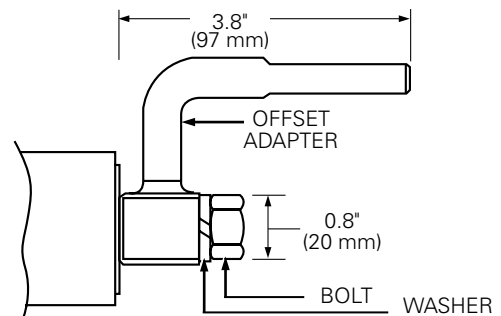

Figure 12. Offset adapter terminal.
2. Place the washer onto the bolt and insert the bolt through the hole of the offset adapter into the tapped center hole of the fuse and torque the bolt to 10-15 ft-lbs. (Figure 12.)